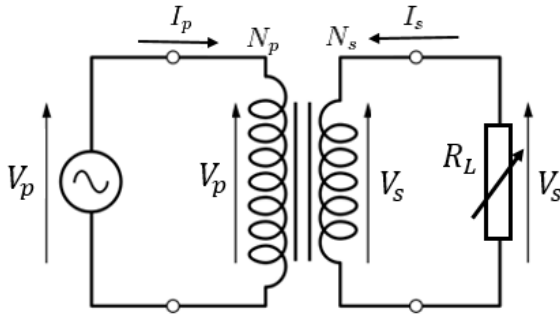
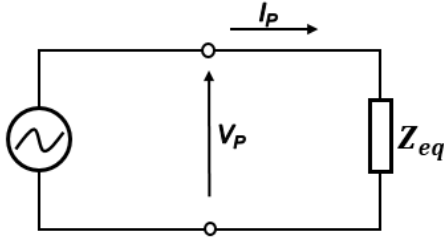
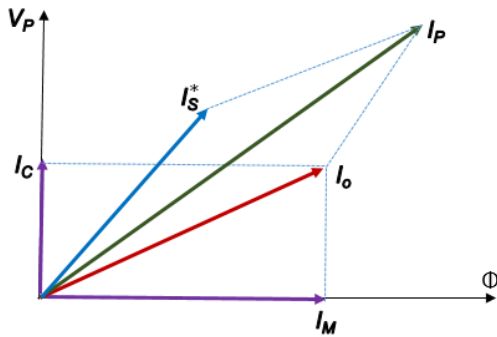

Figure 3: Ideal transformer with load.
Figure 4: Circuit-equivalent to a transformer circuit with ideal load
Figure 9: Phasor diagram of the currents in a practical transformer with load
Let us now look at an ideal transformer whose load R_L (ohms only) is connected to its secondary coil, as shown in Figure 3.
As with any electric circuit we want to find the equivalent impedance of the circuit. Our aim is to express the transformer and the load connected to it as a single component with impedance Z and then we can solve the transformer-containing circuit using the standard methods we know. Therefore we will build an equivalent circuit as in Figure 3, by denoting the transformer together with the connected load as impedance Z_{eq} (Fig. 4).
If the transformer is loaded (connecting the rheostat to the secondary coil terminals as in Figure 3) then the flow diagram will change (see Figure 9). In the secondary coil, an electric current I_s will flow, which will alter the flux in the secondary coil, and as a result, there will also be flux in the primary coil. This electric current, will try under Lenz's law, to reduce the flux in the primary coil. Since the voltage at the input to the primary coil is constant (generator voltage), it will increase the current in the primary coil, according to the wrap ratio, so that it will reach the value of I_s^* (see explanation for Figure 7). The current in the primary coil I_p will be the sum of two vectors: the current I_s^* and the current I_0 (the current of a non-load transformer).
2. For the circuit in figure 3: $V_p = 10V$, $R_L = 10\Omega$, $N_p = 140$, $N_s = 42$. Find the I_s current that flows through the R_L load. Hint: Use Ohm Law for load and the equation. (3)